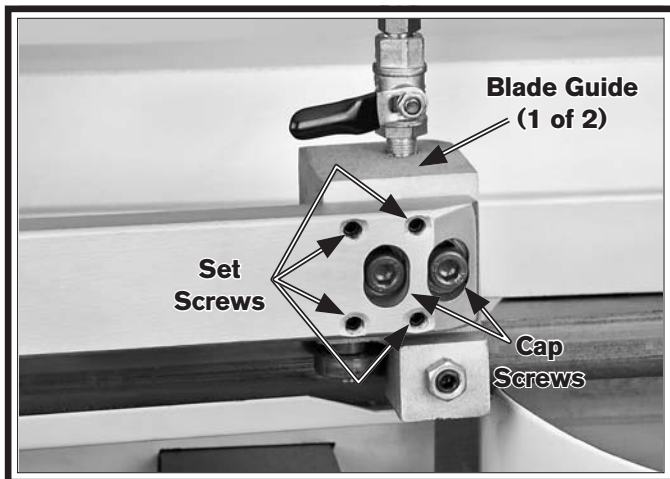

Figure 49. Blade guide adjustments.
A blade that is perpendicular to the table surface provides the best cutting results with minimal side loading and blade wear. The blade is held perpendicular to the table by the two blade guides. Each guide is held in place by two cap screws and aligned with the four set screws shown in **Figure 49**.
4. If the blade is not square to the table, loosen the cap screws shown in **Figure 49** one to two turns. Remove the blade brush assembly (refer to **Page 37**), then repeat for the second blade guide.
- If the top of the blade tilts away from the square, loosen the top two set screws shown in **Figure 49** and tighten the bottom two set screws an equal amount while keeping an eye on the blade squareness (the amount you tighten and loosen the screws depends on how far from square the blade is). Repeat for the second blade guide.
- If the bottom of the blade tilts away from the square, tighten the top two set screws shown in **Figure 49** an equal amount and loosen the bottom two set screws while keeping an eye on the blade squareness (the amount you tighten and loosen the screws depends on how far from square the blade is). Repeat for the second blade guide.